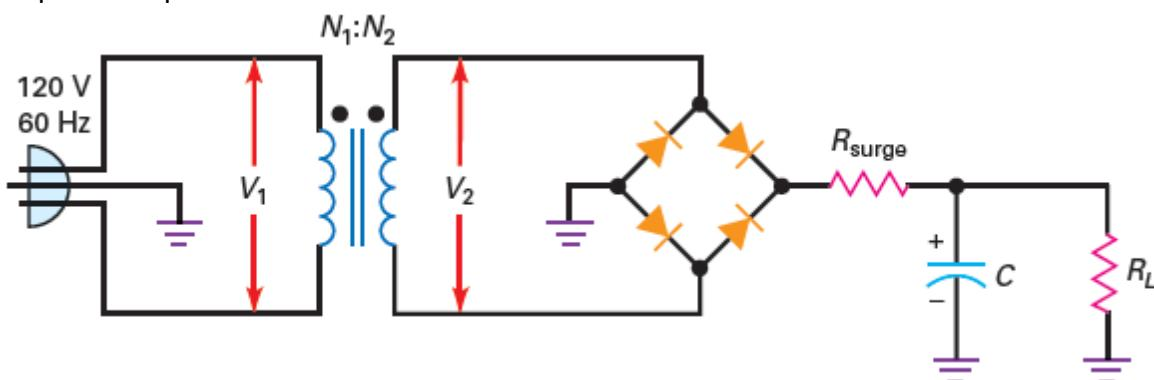

Figure-64 Surge resistor limits surge current
- Figure-64 illustrates the idea. A small resistor is inserted between the bridge rectifier and the capacitor-input filter.
What is the peak inverse voltage in Figure-64 if the turn's ratio is 8:1? A **1N4001** has a breakdown voltage of **50 V**. Is it safe to use a **1N4001** in this circuit?
Using Figure-64, change the transformer's turns ratio to 2:1. Which 1N4000 series of diodes should you use?